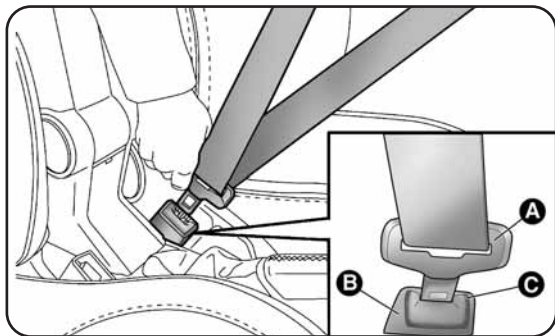

fig. 1
Wear the belt keeping the chest straight and rested against the backrest. To fasten the seat belts, hold tongue A-fig. 1 and insert it into buckle B, until the locking click is heard.
*Never press button C-fig. 1 when travelling.*